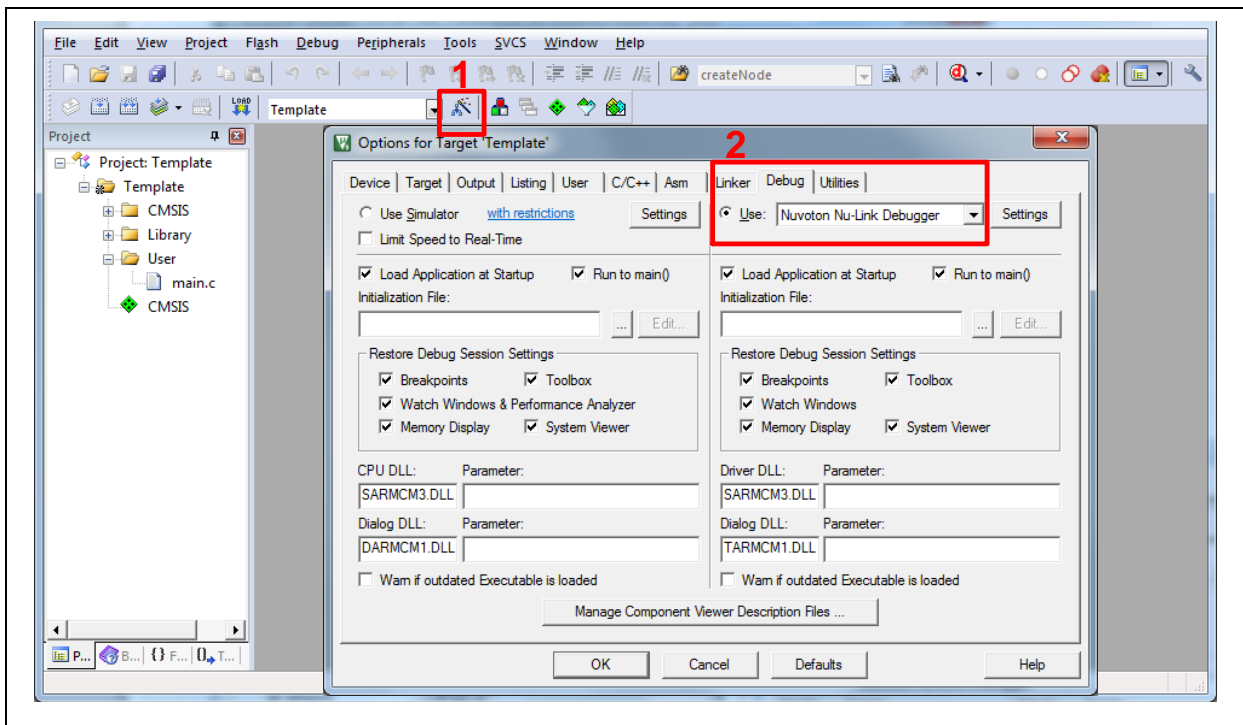
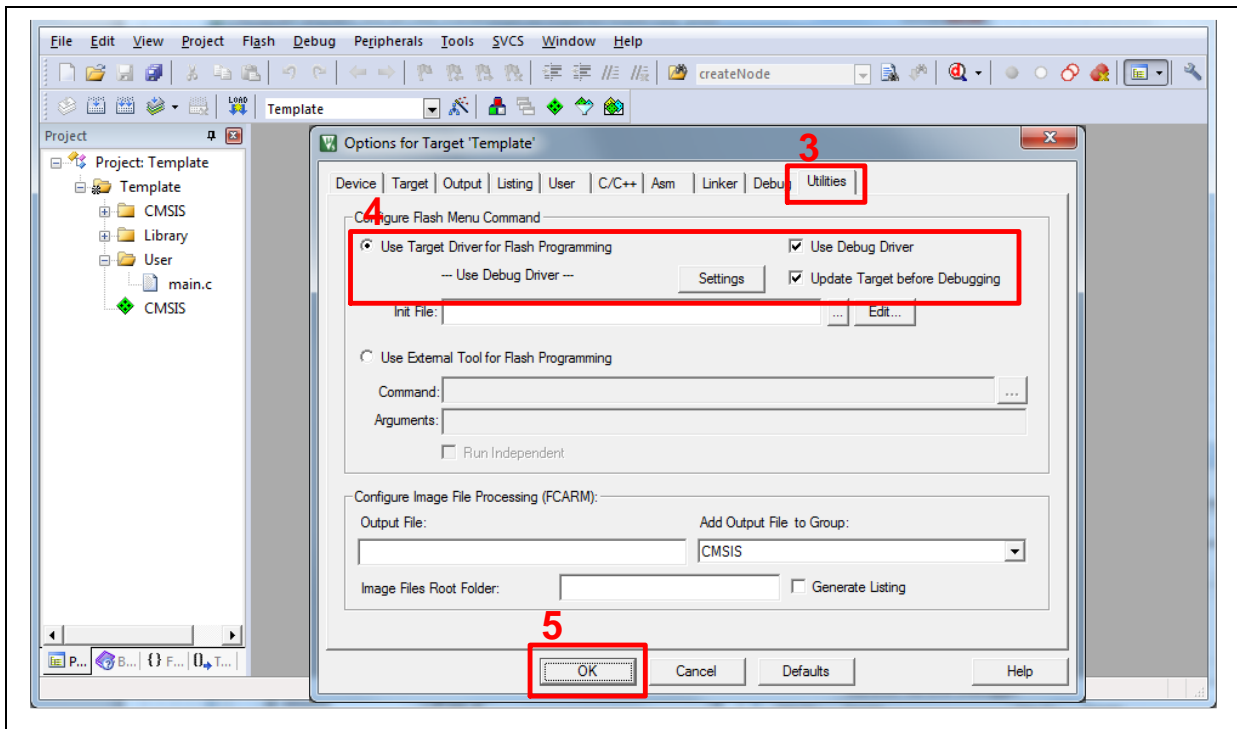

Figure 3-10 Debugger Setting in Options Window
Figure 3-11 Programming Setting in Options Window
- Make sure the debugger is “Nuvoton Nu-Link Debugger” as shown in Figure 3-10 and Figure 3-11.
Note: If the dropdown menu in Figure 3-10 does not contain “Nuvoton Nu-Link Debugger” item, please rework section 3.2.